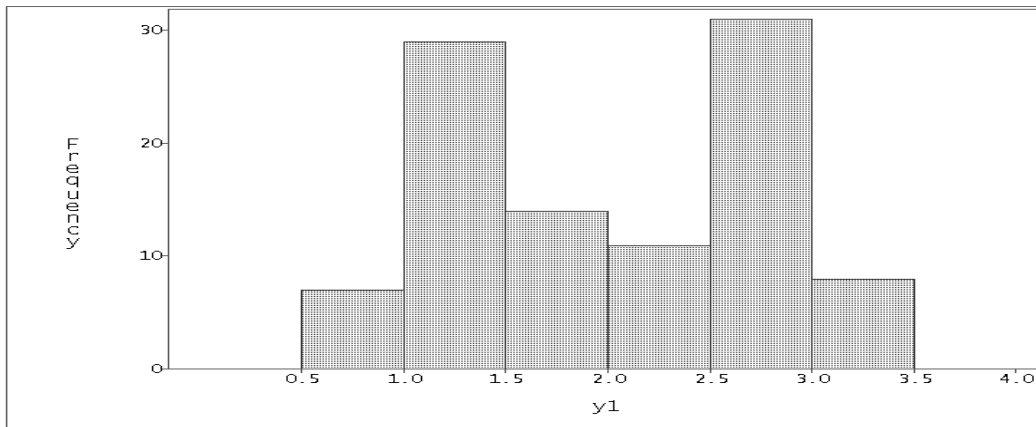
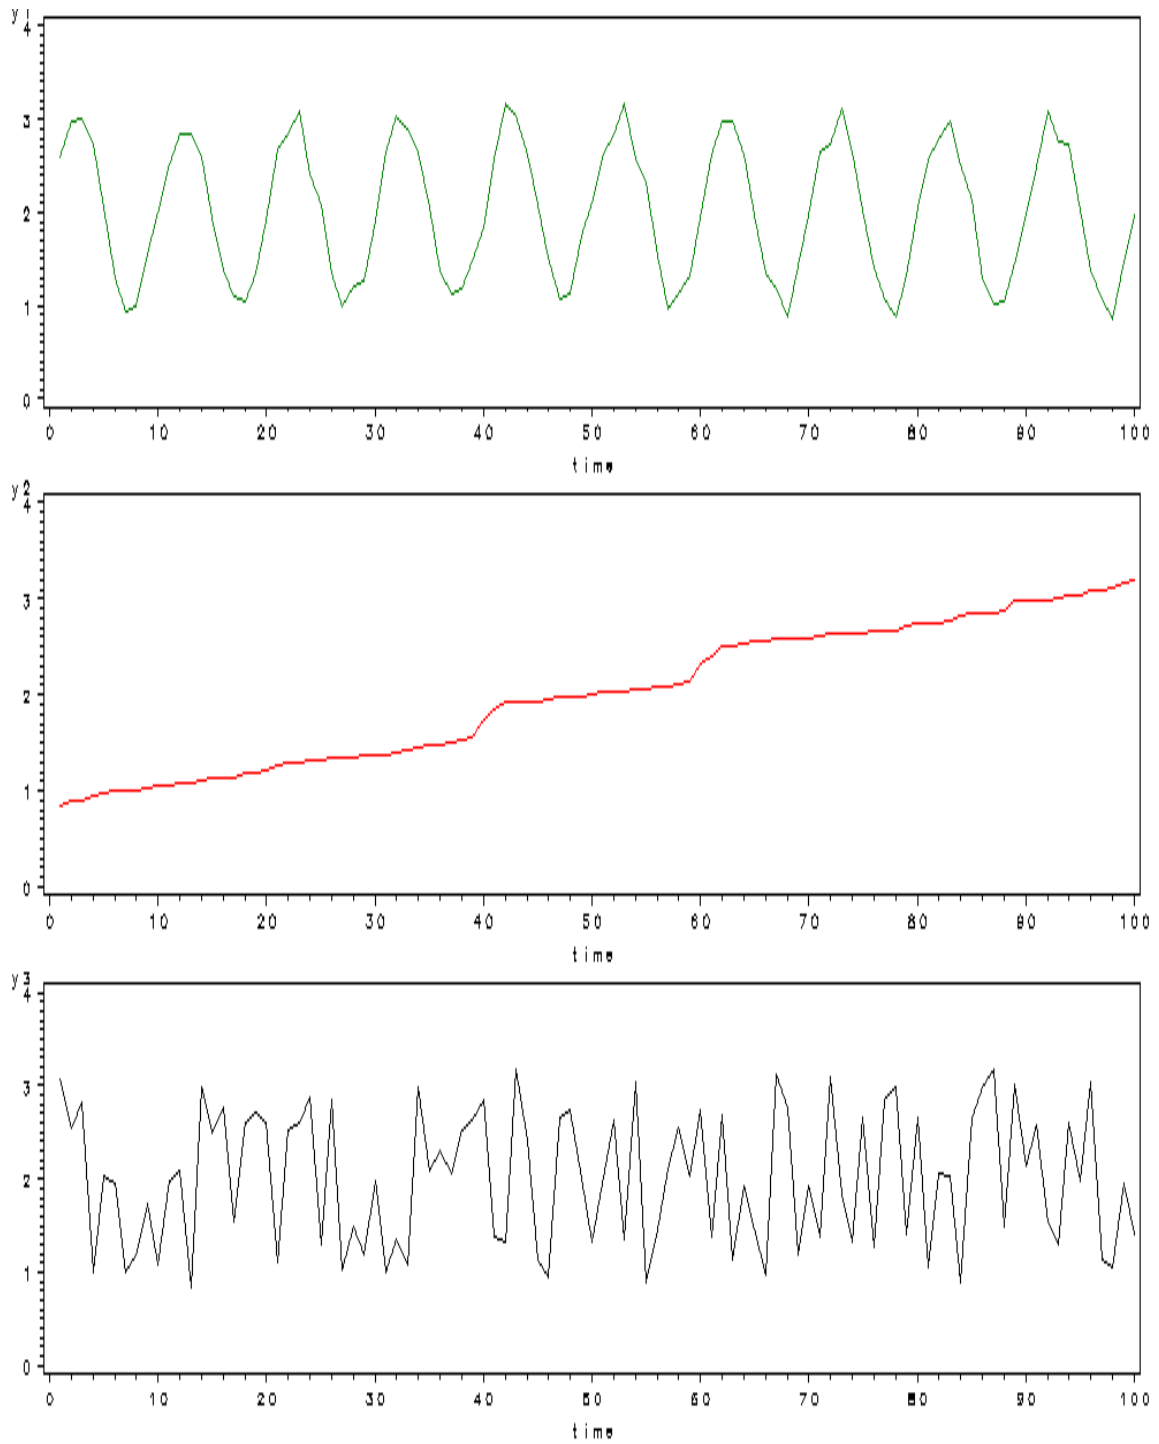

Figure 3: *Histogram of some simulated data.*
Figure 4: *Three possible time series plots for the simulated data.*
- o To assess stationarity data must be plotted versus time. Figure 3 shows a histogram of some simulated data:
The histogram in Figure 3 will always look the same regardless of the order in which the data were taken. Figure 4 shows three possible plots of these same data, obtained by rearranging the order in which the data are plotted. These three plots tell very different stories about the process that produced the data. This example shows that to properly analyze data taken